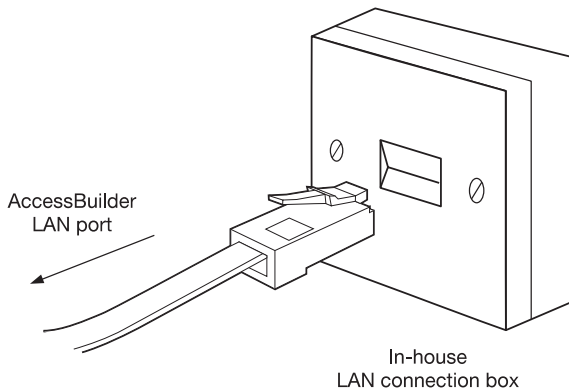

Figure 1-7 Connect The UTP Cable To In-House LAN Connection Box
- 2 Connect the other end of the cable into the female socket of the in-house LAN connection box, as shown in Figure 1-7.